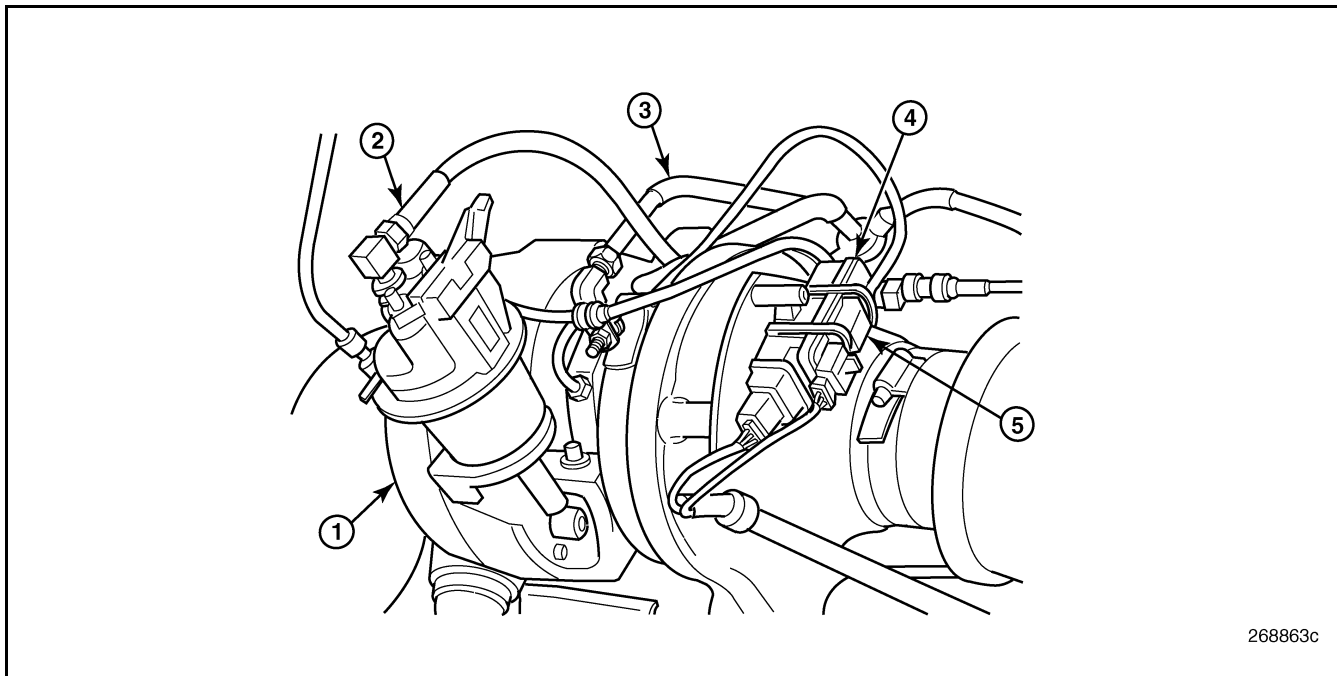

Figure 514 — Line Connections
3. Disconnect the air line and the sensor electrical lead at the VTG actuator assembly (Figure 514) and the line at the turbocharger wheel-speed sensor.